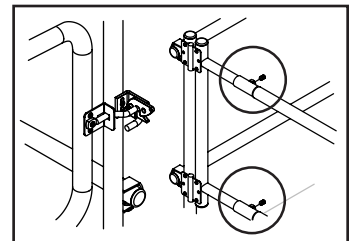

FIG. 7
- e.) Install telescoping side of the gate with installed hook onto the hinged piece to fit exit opening. Make sure the hook pin properly engages the latch catch and tighten set screws. (Fig. 7)